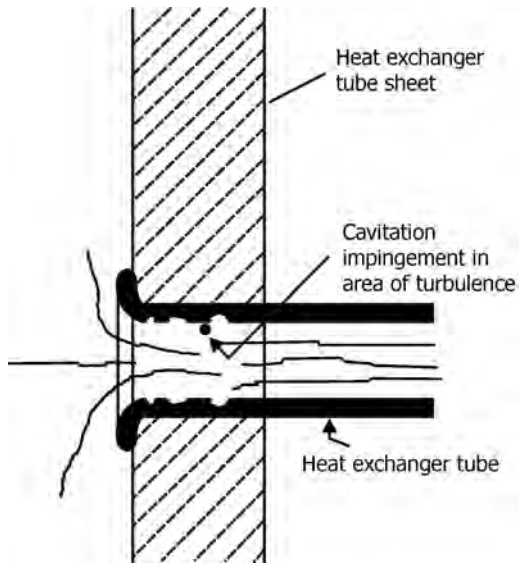

FIGURE 5.11 Heat exchanger tube damage at the entrance area into the tube due to cavitation.
- *True.* In heat exchanger tubes, internal tube cavitation erosion can occur in the area of sudden contraction at the tube sheet as shown in Figure 5.11.